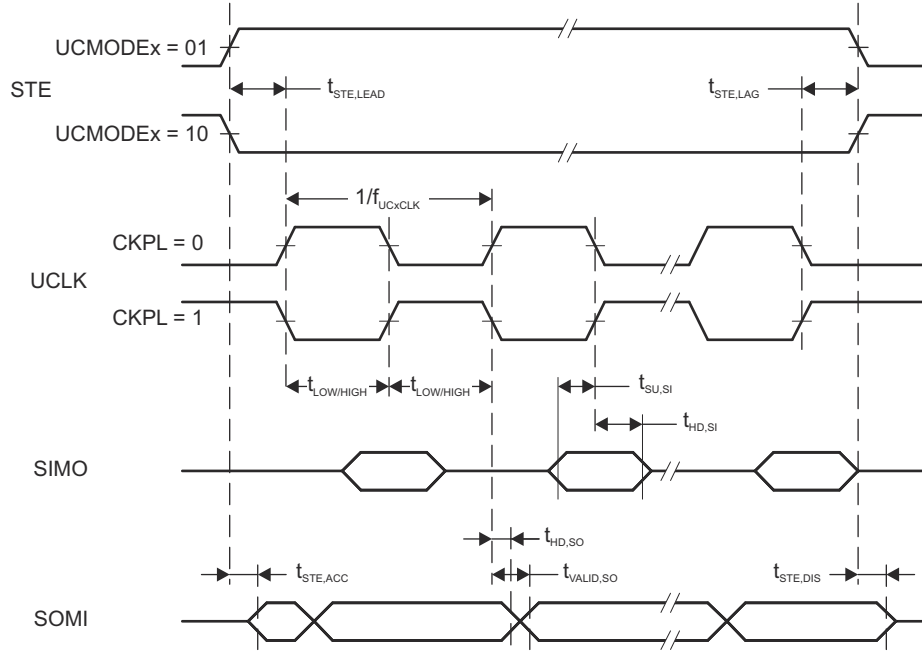
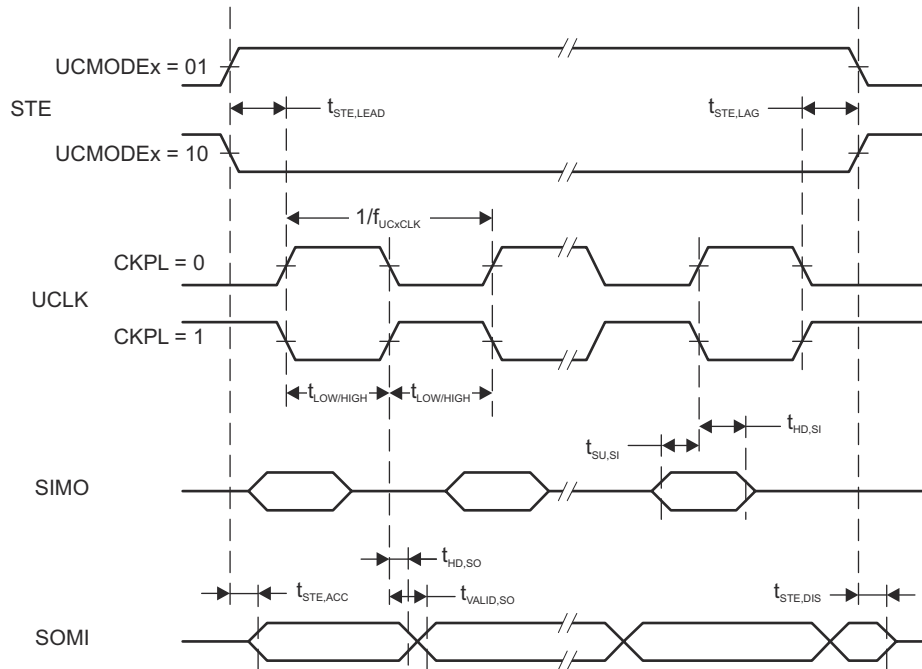

图 8-15. SPI Slave Mode, CKPH = 0
图 8-16. SPI Slave Mode, CKPH = 1
- (2) Specifies the time to drive the next valid data to the SOMI output after the output changing UCLK clock edge. See the timing diagrams in 图 8-15 and 图 8-16.
- (3) Specifies how long data on the SOMI output is valid after the output changing UCLK clock edge. Refer to the timing diagrams in 图 8-15 and 图 8-16.